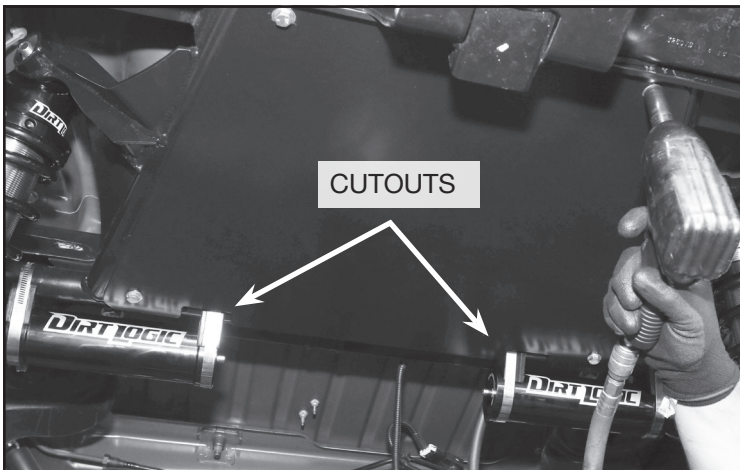

FIGURE 27 - STEP 22
22. Install FT50429BK (Skid Plate) using the supplied 7/16" x 1" bolts, lock and standard washers. **NOTE: Be sure the resi clamps are in set into the skid plate cutouts. Once clear, tighten clamps and torque 7/16" hardware to 83 ft-lbs. SEE FIGURE 27**